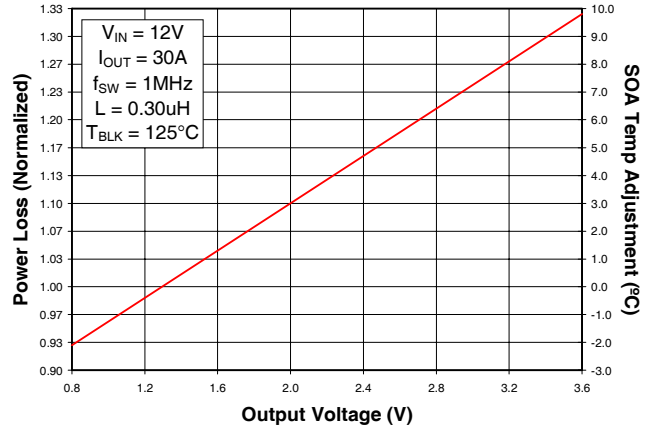

Fig. 4: Normalized Power Loss vs.  $V_{OUT}$
- (Fig. 4) Normalized power loss for output voltage  $\approx 1.28$
- (Fig. 4) Normalized SOA Temperature for output voltage  $\approx 8.4^\circ\text{C}$